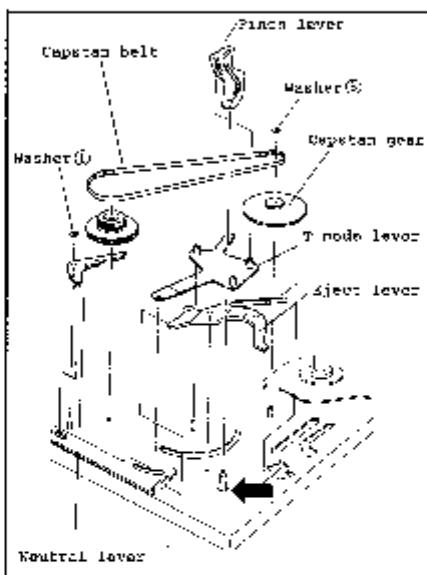

Fig. III-44-A
- (1) Apply the Grease EL-4 on the  positions in the Fig. III-44-A.
- (2) Reverse the disassembling procedures while checking the position of holes. (Fig. III-44-A)
### 39. T mode Lever (Fig. III-44-B)